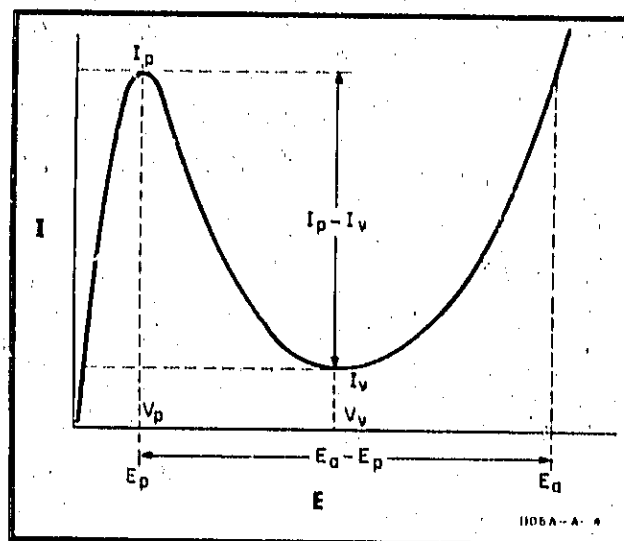

Figure 10. Tunnel Diode Curve Specifications
41. To check a Tunnel Diode Mount use a Tektronics Model 575 Transistor Curve Tracer. Set the Model 575 controls as follows: Vertical to 10mA/cm; Horizontal to 0.2 V/cm; Peak Volts Range to 0-20; Peak Volts to 0; Dissipation Limiting Resistor to zero; Polarity to positive (+). Connect lead C to center conductor to type N connector and lead E to the case of the Tunnel Diode Mount. Slowly increase Peak Volts. The characteristic curve (Figure 10) should be observed. Points on the curve should meet the following specifications: